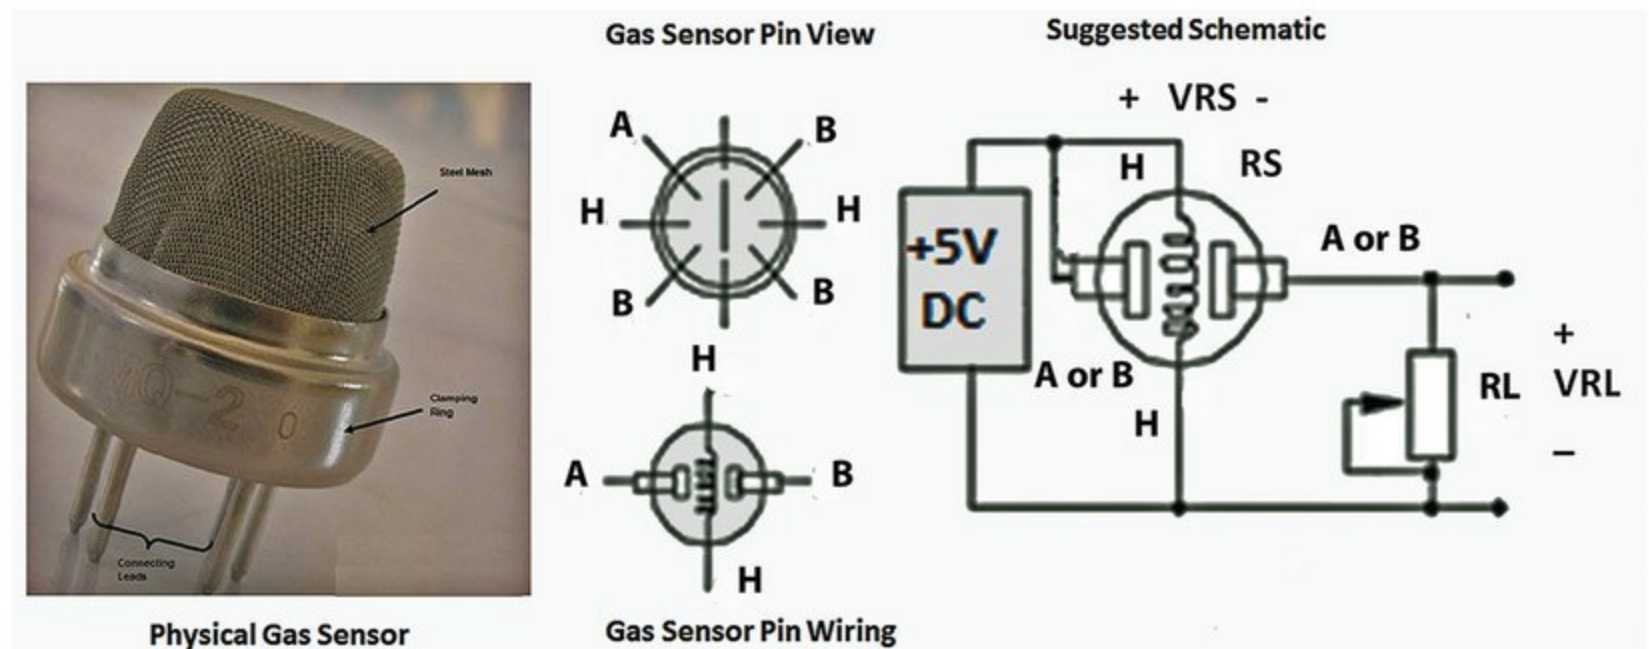
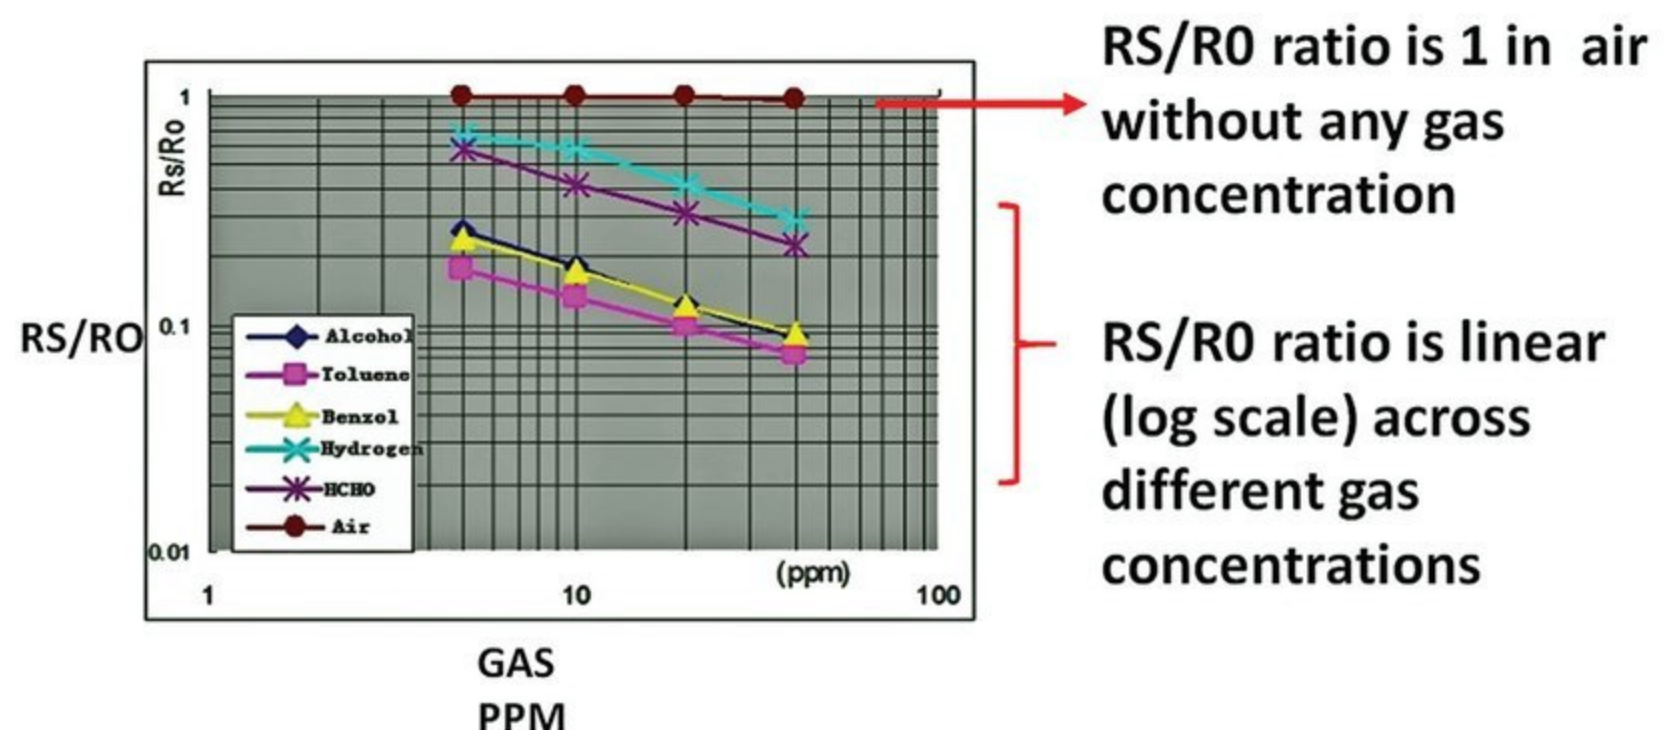

FIGURE 4. Generic gas sensor.
FIGURE 5. Manufacturer's spec: RS/R0 versus PPM for MQ-2.
Figure 4 shows my test rig cranking along. In the top row of the display, the temperature is given both in Celsius and Fahrenheit. The bottom row shows the station pressure and the MSLP.
together (see **Figure 4**). The A and B pins are driven by a common voltage (VCC). A picture of this sensor and a general circuit of the MQ sensor is shown in **Figure 5**. The schematic shows a resistor network for the sensor (RS) in series with the load (RL) to ground. The gas sensor output voltage is VRL — the voltage across RL. From the schematic (using the Kirchhoff voltage law), it can be shown that:
Let's examine a typical MQ spec. The manufacturer's spec sheet for all MQ sensors uses a graph indicating gas sensitivity of a sensor as a ratio of RS (sensor resistance) to R0 versus PPM (refer again to **Figure 5**).